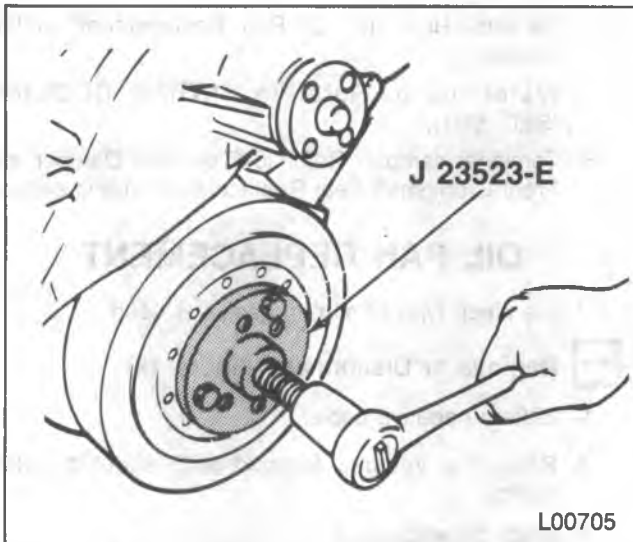

Figure 16 — Removing the Torsional Damper
Remove or Disconnect (Figure 16)
5. Torsional damper. Use J 23523-E (figure 16).